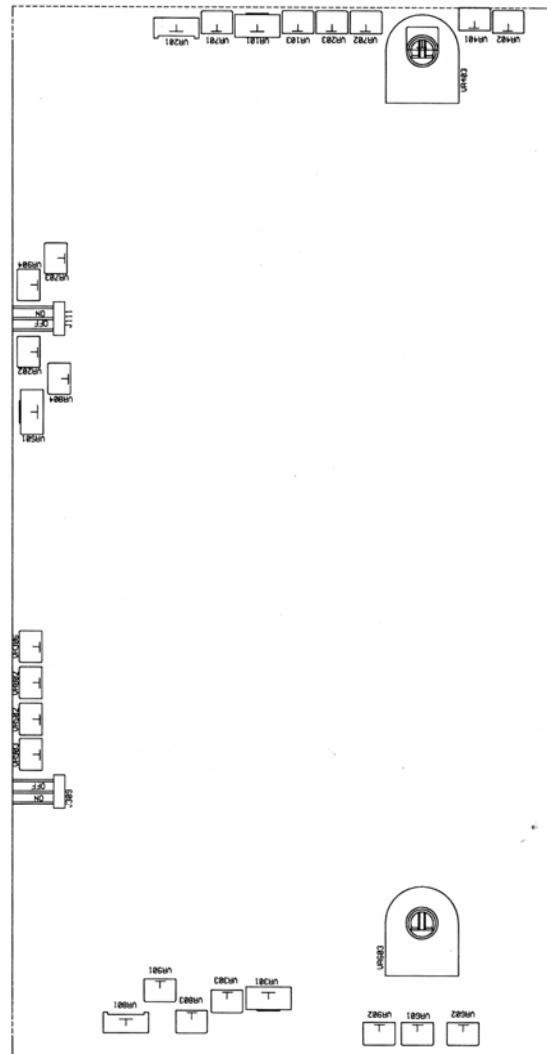

Fig. 6-1. Adjustment Location
(6) Dynamic Load Operation & Application
- A. When select to dynamic load position, the max peak current is at 1.7 times rating current. The features are only applied for audio circuit of amplifier and audio production lines. Change the position of wafer J111 of CH1 and J309 of CH2 from "OFF" to "ON". Please refer to Fig.6-1 Adjustment Location.
(7) Output ON/OFF Action
If readjustment is required, use the following procedure. The location of the adjustments is shown in Fig. 6-1.